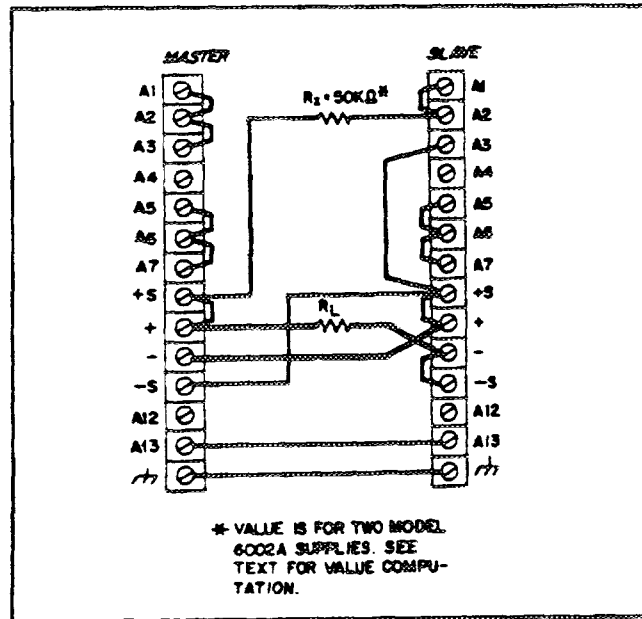

Figure 3-11. Auto-Series Operation of Two Units
**3-56 Auto-series operation** provides greater output voltage capability than that available from one supply. A maximum of three units can be used in this configuration. Figures 3-11 and 3-12 show the rear panel and circuit board interconnections required to operate two or three supplies in auto-series. This mode of operation allows the series-connected supplies to be simultaneously programmed by the voltage and current controls of a master supply. The master supply must always be the one at the positive end of the series combination. The output voltage of each slave supply varies in direct proportion to that of the master and the ratio of each slave's output voltage to the master's is established by the settings of the slave supplies' voltage controls. The resulting combination of two or three supplies behaves as if it were a single constant-voltage/constant-current supply. The supply with the lowest current setting limits the maximum output current of the combination. Mixed model numbers can be employed in auto-series combination, provided that each slave is capable of auto-series operation. Any well-regulated, variable output supply can be used as the master.
**3-62** **Overvoltage Protection in Auto-Series.** The interconnections shown in Figures 3-11 and 3-12 between the external crowbar trigger terminals on the master and on the slave(s) must be made to permit the overvoltage crowbar in any one of the interconnected supplies to fire the SCRs in all of them if an overvoltage condition occurs. Be sure to connect them with the polarity shown. Set the overvoltage potentiometer in each supply so that it trips at a point slightly above the voltage that supply will contribute.